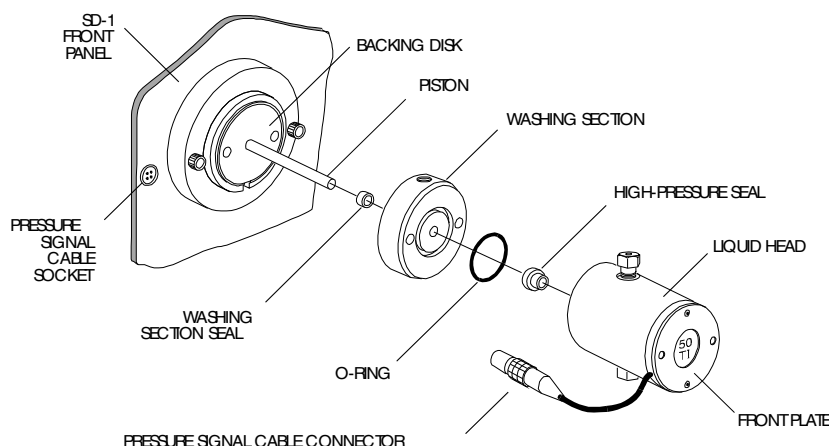

Figure 20. Liquid Head Exploded View (50 mL/min head shown)
5. Align the liquid head so that the slot at the bottom is lined up with its matching slot in the housing on the front panel (see Figure 20). Supporting the weight of the liquid head, carefully slide it along the piston until it stops.